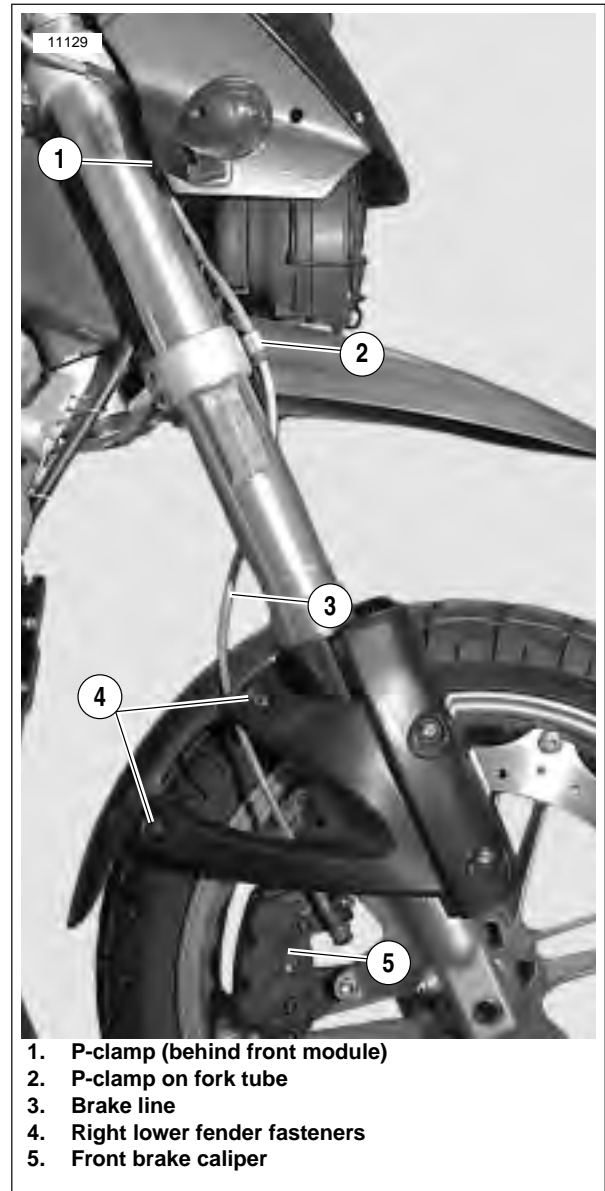

Figure 2-45. Front Brake Line
2. See Figure 2-45. Remove p-clamp (1) attaching brake line to rear of right front module. See 2.44 WINDSHIELD AND WINDSCREEN and 2.29 FRONT MODULES.
3. Remove p-clamp (2) detaching brake line (3) from right side of lower fork clamp.
4. Remove fasteners (4) on right lower fender.
9. See Figure 2-45. Install lower right fender. See 2.36 FENDERS.